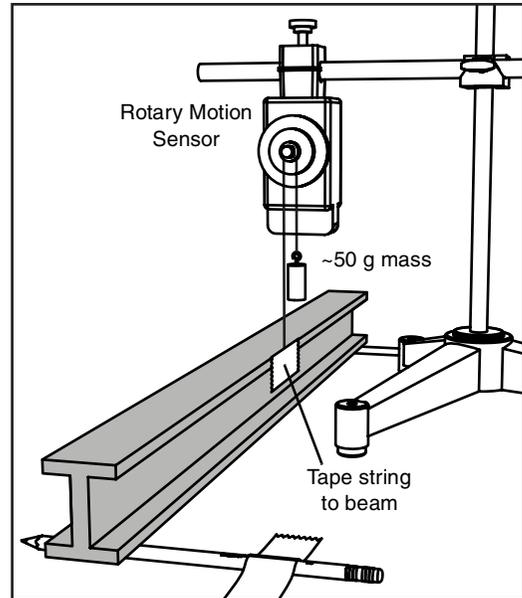

Figure 9: Rotary Motion Sensor
- b. Mount the rotary motion sensor above the I-beam as (shown in Figure 9) using a stand, clamp, and rods.